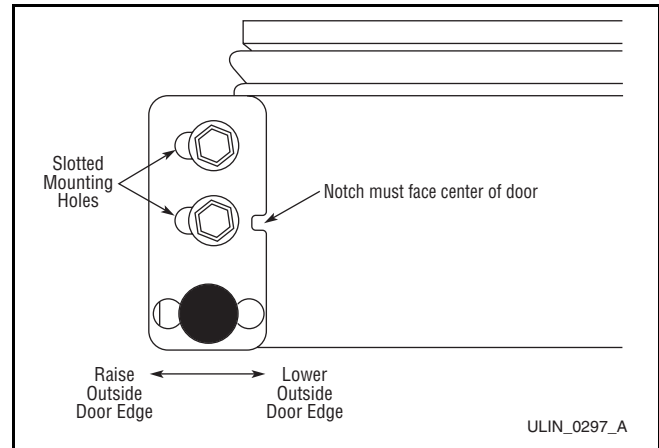
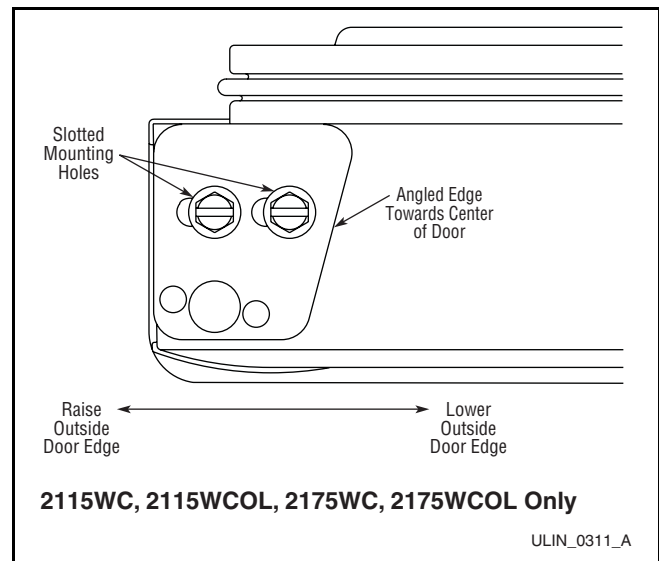

Figure 39
Figure 40
3. See **Figure 39** and **Figure 40**. If the top far edge of the door needs to move UP, move the hinge plate toward the outside of the door and retighten screws. If the top far edge of the door needs to move DOWN, move the hinge plate toward the inside of the door and retighten screws.